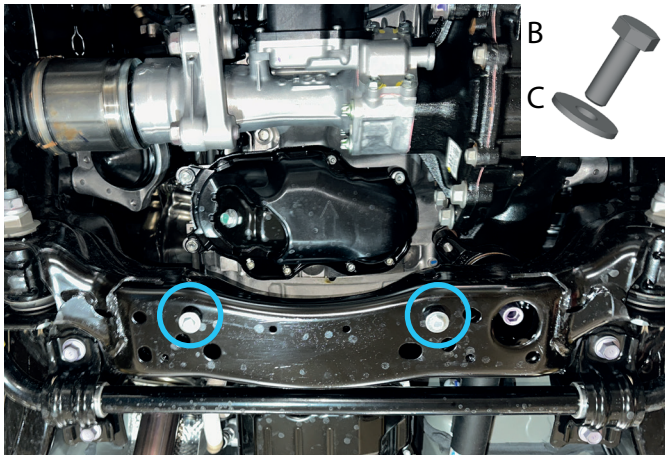

Fig. 6
6. Screw bolts M8x25 (item B) with washers 8 (item C) for 2-3 turns as shown in fig.6.